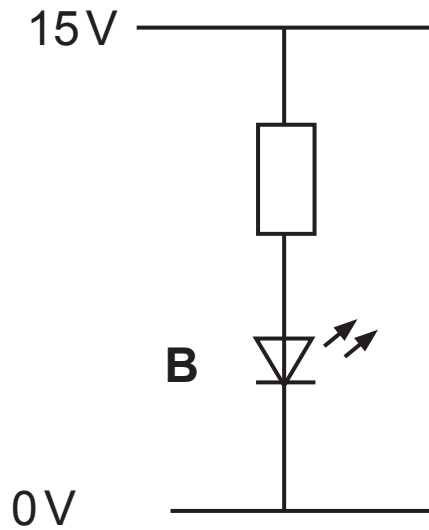

Fig. 3
- (b) (i)** Name the component labelled B in **Fig. 3** below.
- (ii)** If component B is rated at 2V, 20 mA, calculate in the space below the minimum value for the resistor in **Fig. 3**. [3 marks]